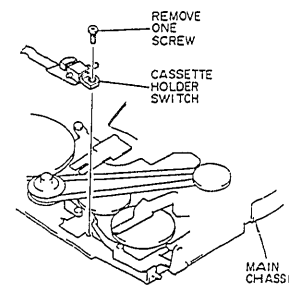

Fig. 2-60
• Main Chassis Bracket (1), (2)	4-1
• Supply Guide Roller (2), Supply Tape Guide, Loading Motor	6-4
• Loading Gear (2), (3), Mechanism State Switch, Support Plate	6-5
- 1) Remove one (1) screw holding the cassette holder switch. (See Fig. 2-60)